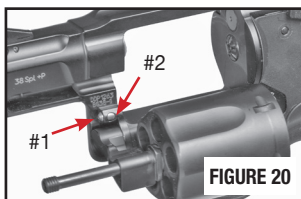

FIGURE 20
- Push the thumbpiece forward to release the cylinder and then tip the cylinder to the left, out of the frame. Apply a drop of firearm lubricant to the points called out by arrows #1 and #2 (FIGURE 20).